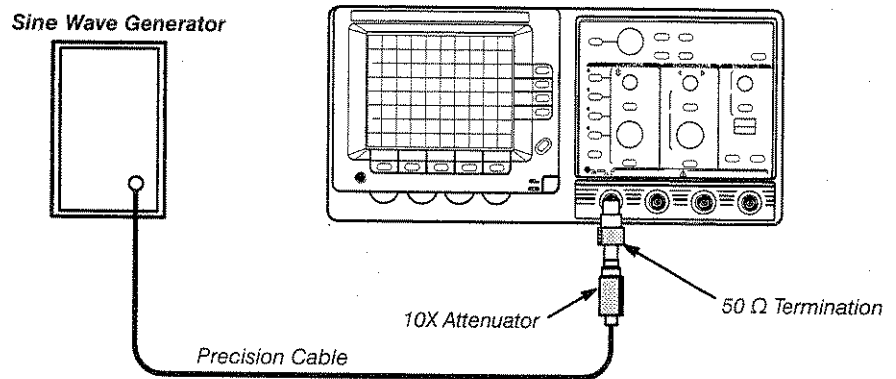

Figure 6-13: Trigger Sensitivity Test Setup (Two)
15. Add a 10X attenuator to the test setup as shown in Figure 6-13.